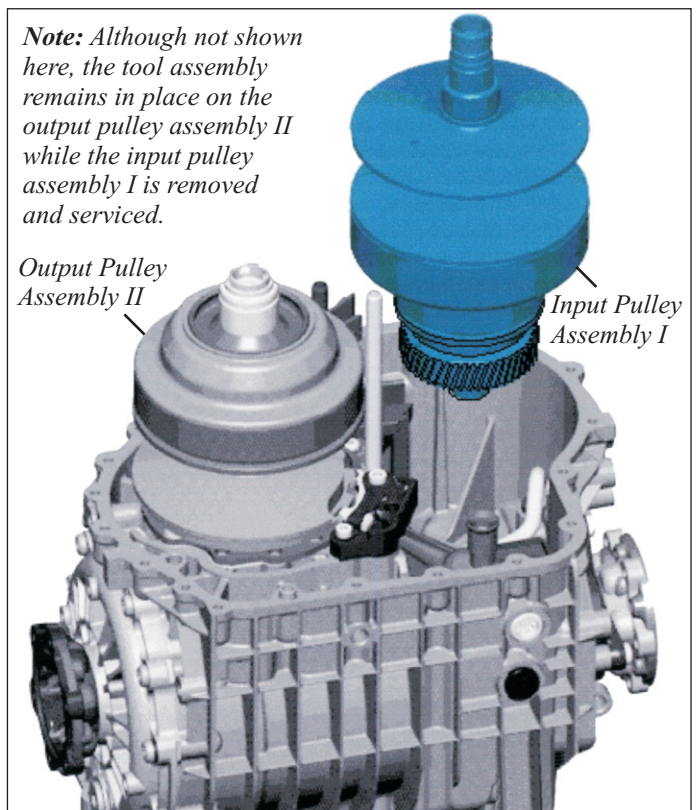

Figure 12
13. Remove the input pulley assembly I (Figure 12).
1. In reverse order, carefully install the Drive Pulley assembly into the main case (figure 12).